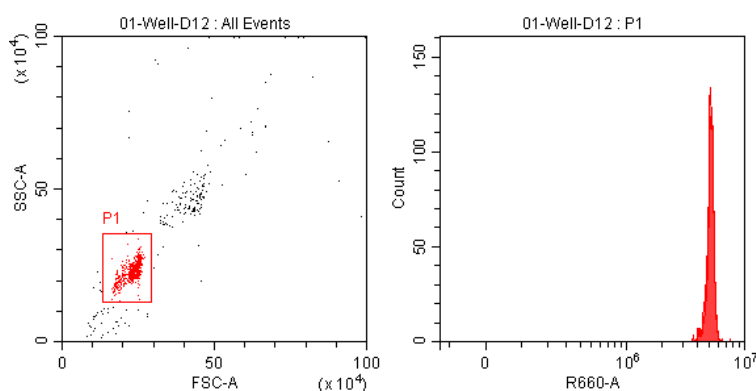

Figure 3. Optimization of PMT Voltages for FSC/SSC, APC Signals
3.2.2 Create a histogram with APC on the X-axis. Vortex the APC positive control for 30 seconds and analyze at a low flow rate. Adjust FSC/SSC settings to clearly visualize the bead population, then set PMT voltages to ensure the APC signal falls within the detection range and preferably in the higher intensity region (Figure 3).